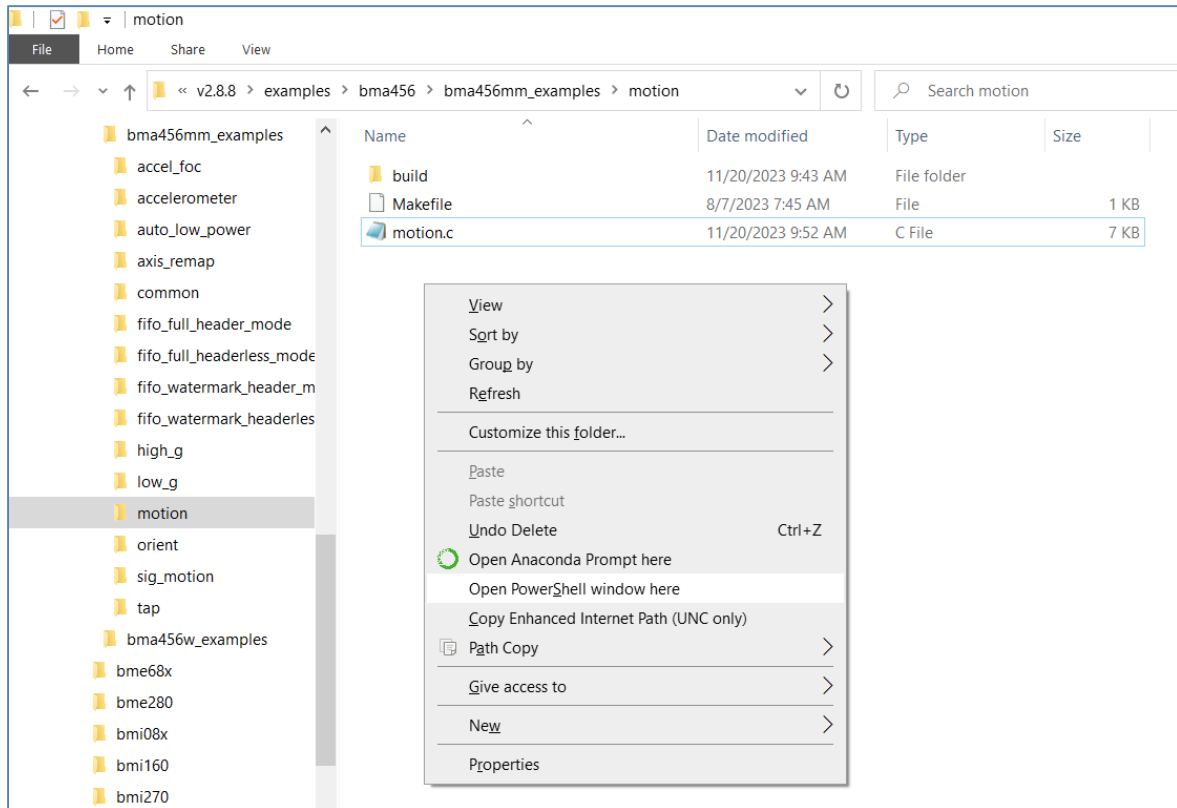

Figure 4 Open PowerShell window
- Then press and hold “Shift” key on the keyboard and then right click the mouse. Select “Open PowerShell window here” as shown in Figure 4.